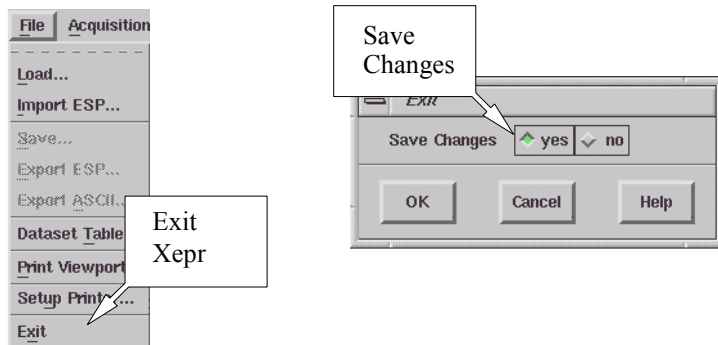

Figure 16-9 Saving the changes and exiting.
7. **Exit Xepr.** Click **File** and then **Exit** in the menu bar. A dialog box appears asking you if you want to save the changes. Click **Yes** and then **OK** to exit Xepr program. (See Figure 16-9.) Next time you launch the Xepr software, you will find the **Server Name** appearing in the **Connect to Spectrometer** dialog box. The printer will be ready to print.